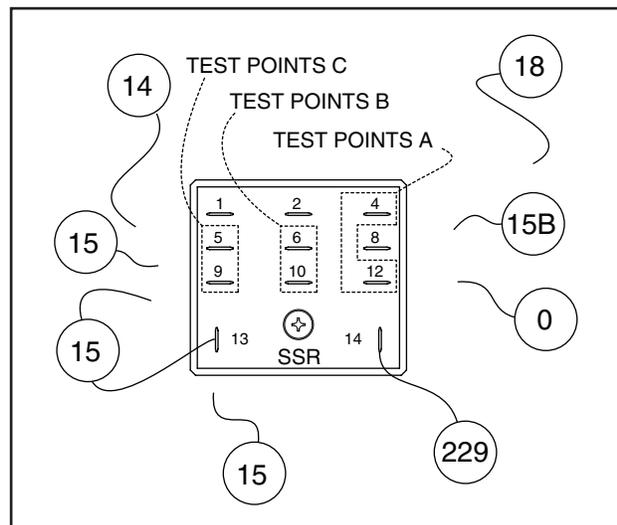

Figure 6-42. – Start Stop Relay (SSR) Not Energized
4. Remove Wire 0, Wire 18, Wire 15, Wire 15B, Wire 15, and Wire 14. See Figure 6-42.
leads across TEST POINTS B INFINITY should be measured. Connect meter test leads across TEST POINTS C. INFINITY should be measured (See Figure 6-42). If the SSR fails any test replace it.